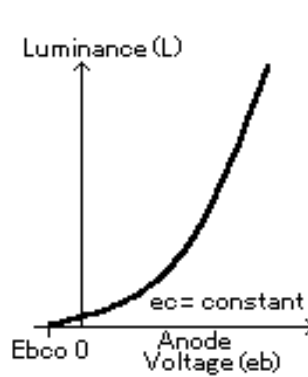
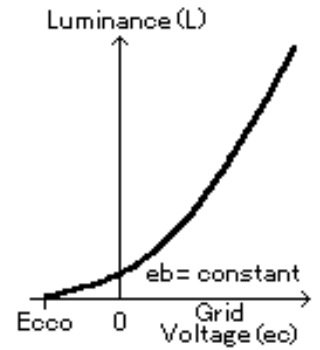

Fig.15 Anode Voltage and Luminance
Fig.16 Grid Voltage and Luminance
Luminance (L) varies with the anode voltage (eb) as shown in Fig.15 when the grid voltage (ec) is a constant. Luminance also varies with the grid voltage as shown in Fig.16 when the anode voltage is a constant. To completely turn off the luminescence at the un-addressed display segments, a negative voltage shall be applied to the un-addressed anodes and grids with respect to the filament. These negative voltages are called anode cut-off voltage (Ebco) and grid cut-off voltage (Ecco) respectively. The cut-off voltage-varies depending on each type of display due to various differences in filament voltage and wave form. Please note that the cut-off voltage quoted in each particular specification is based upon the AC voltage being supplied via a transformer complete with center-tap.